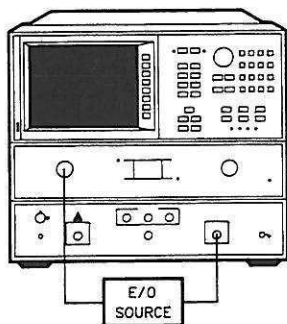

Figure 8. Source Measurement Configuration
9. Insert the test device as shown in Figure 8. Be sure all the connections are clean.